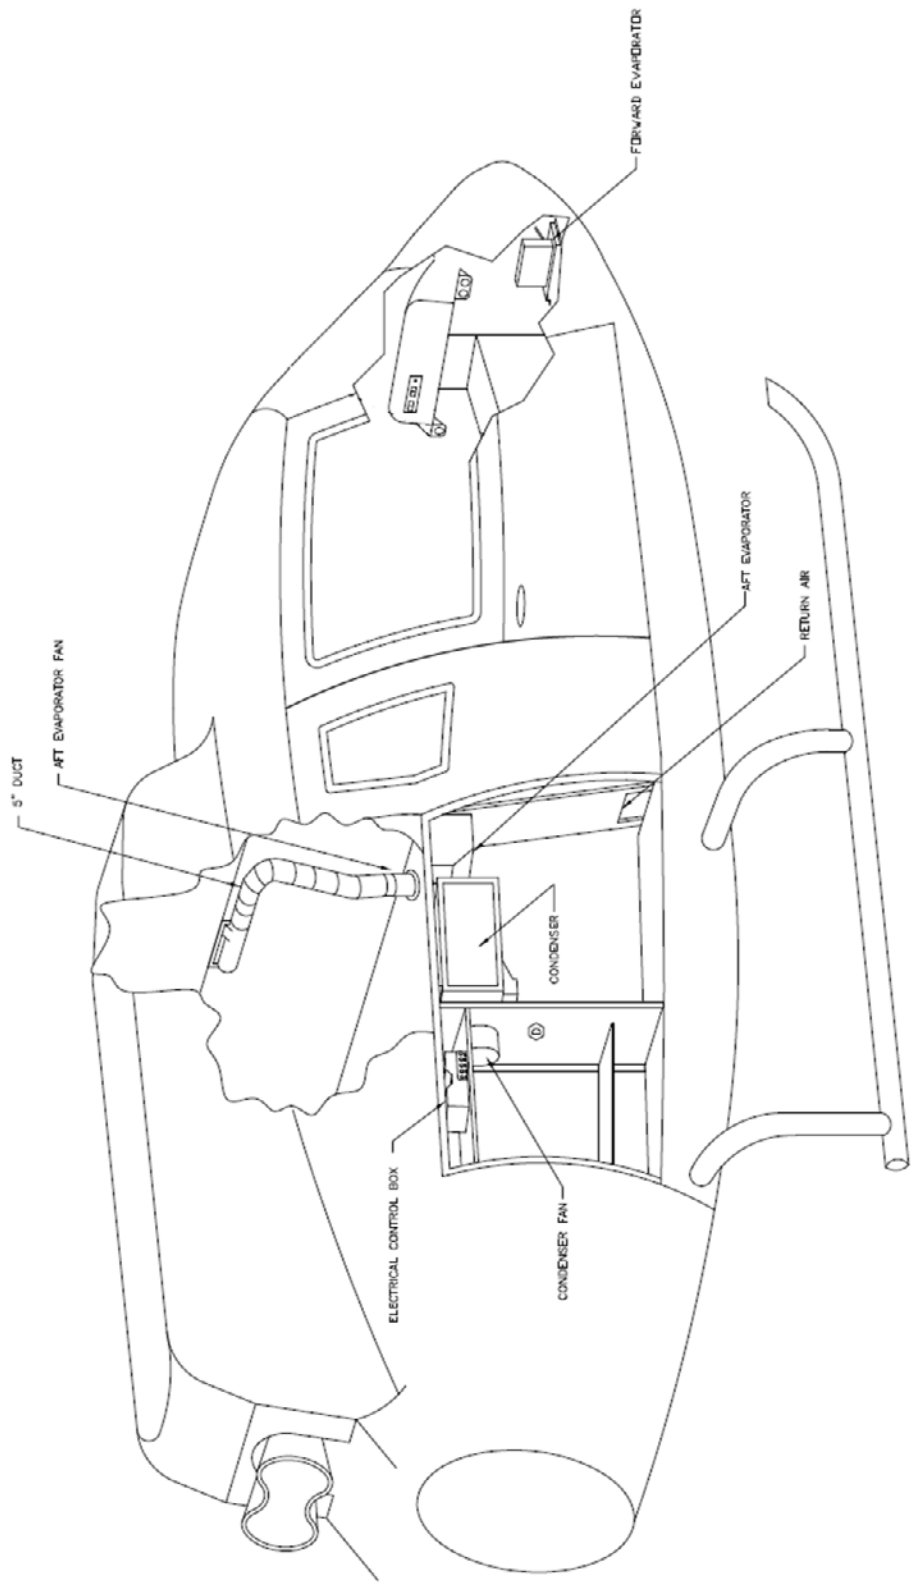
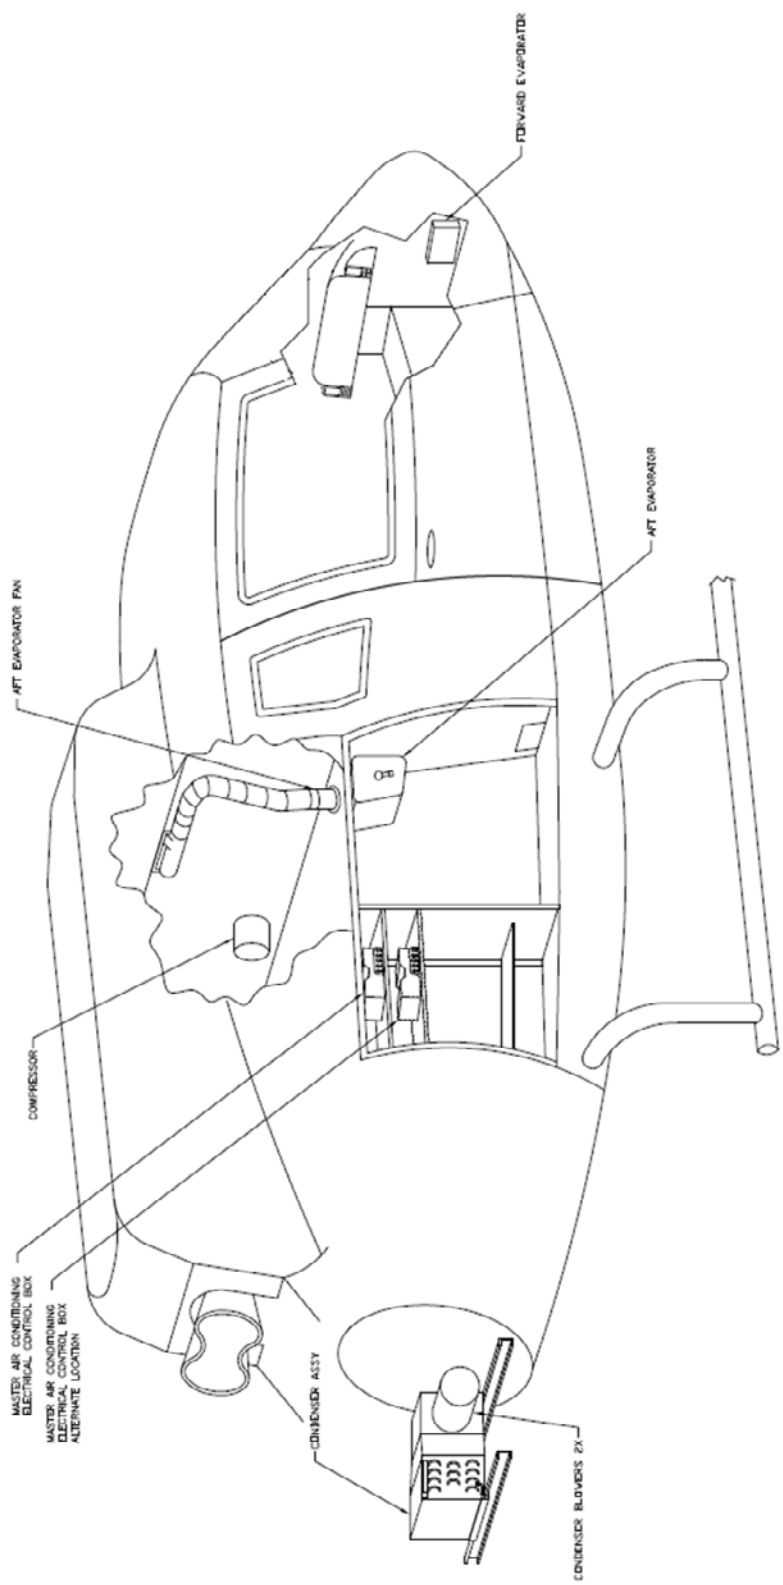

Figure 21-01: Equipment Locations for Air Conditioning System with the -011 Configuration (Side Mounted Condenser)
Figure 21-02: Equipment Locations for Air Conditioning System with the -031 Configuration (Aft Mounted Condenser)
- **Condenser-** The condenser is located in one of two positions depending on kit part number (Ref. table 21.1). The aft mounted condenser (Ref. figure 21-01) is mounted in the tail boom mounted 5 in. above the baggage floor. The side mounted condenser is located in the right baggage compartment (Ref. figure 21-02). The EC-130 condenser is only located in the aft mounted configuration. The aft mounted condenser assembly has two blower motors, whereas the side mounted condenser assembly only has one blower motor.
350-00-011-HP	Side Mounted Condenser (Ref Figure 21-01)
350-00-031-HP	Aft Mounted Condenser (Ref Figure 21-02)
130-00-031-HP*	Aft Mounted Condenser (Ref Figure 21-02)